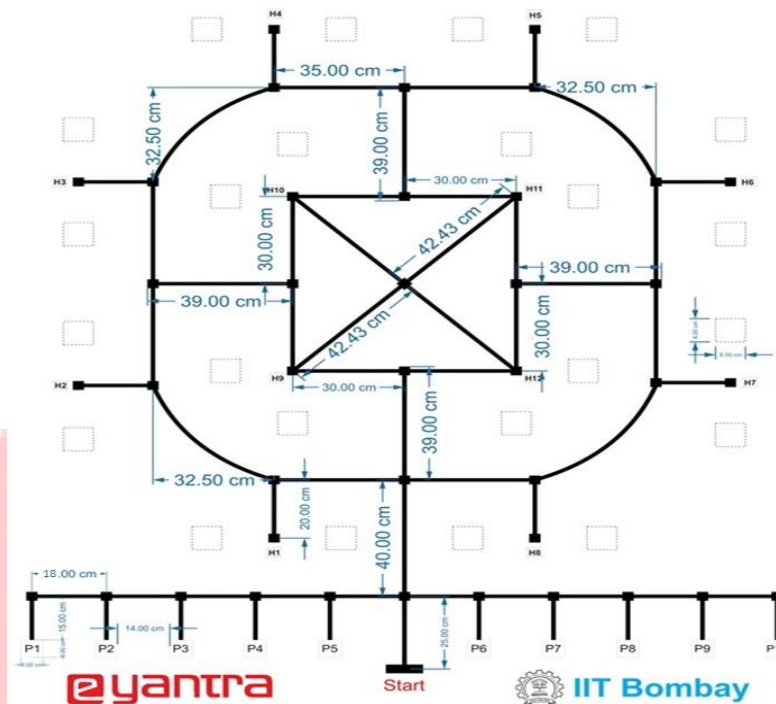

Figure 3: Flex Design
- The arena design is as shown in Figure 3.
- Dimension of the flex sheet is 220cm x 243cm. A small margin is provided on all the sides to allow for sticking the flex sheet on the ground (Refer to Figure 3).